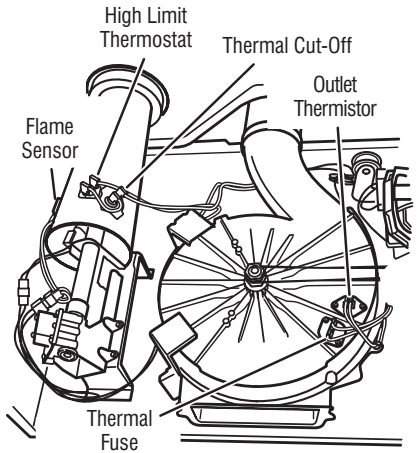

Figure 12b - Thermal components, gas dryer, viewed from front.
5. Locate the high limit thermostat (see Figure 12b, page 14). Measure the continuity through it by connecting the meter probes to the black and blue wire terminals.